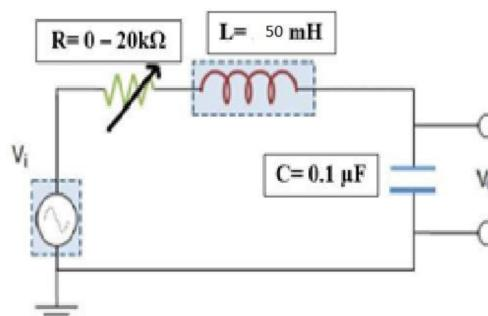

Figure 3.2: Series RLC circuit for different damping ratios
- i Using the breadboard and wire leads connect the resistor, capacitor and inductor along with the output of the function generator to construct the circuit shown in Figure 3.2. Note that the peak to peak voltage is measured across the capacitor using the oscilloscope.
- iii Use the same circuit as used in Part (1) of this experiment. In this case, the output voltage is measured across the capacitor, so connect the terminals of the oscilloscope across the capacitor.